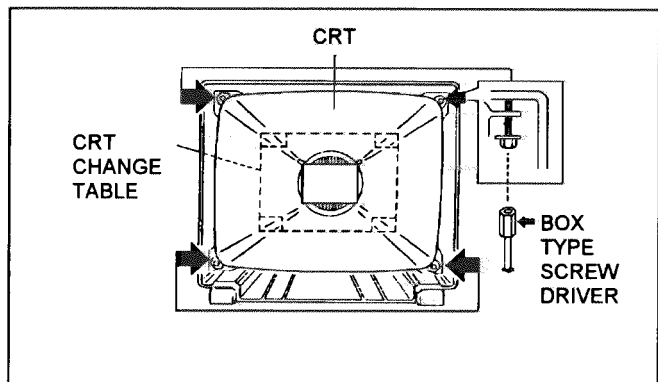

Fig. 5
2. While keeping the surface of CRT down, mount the TV set on the CRT change table balanced will as shown in Fig.5.
3. Remove 4 screws marked by arrows with a box type screw driver as shown in Fig.5.